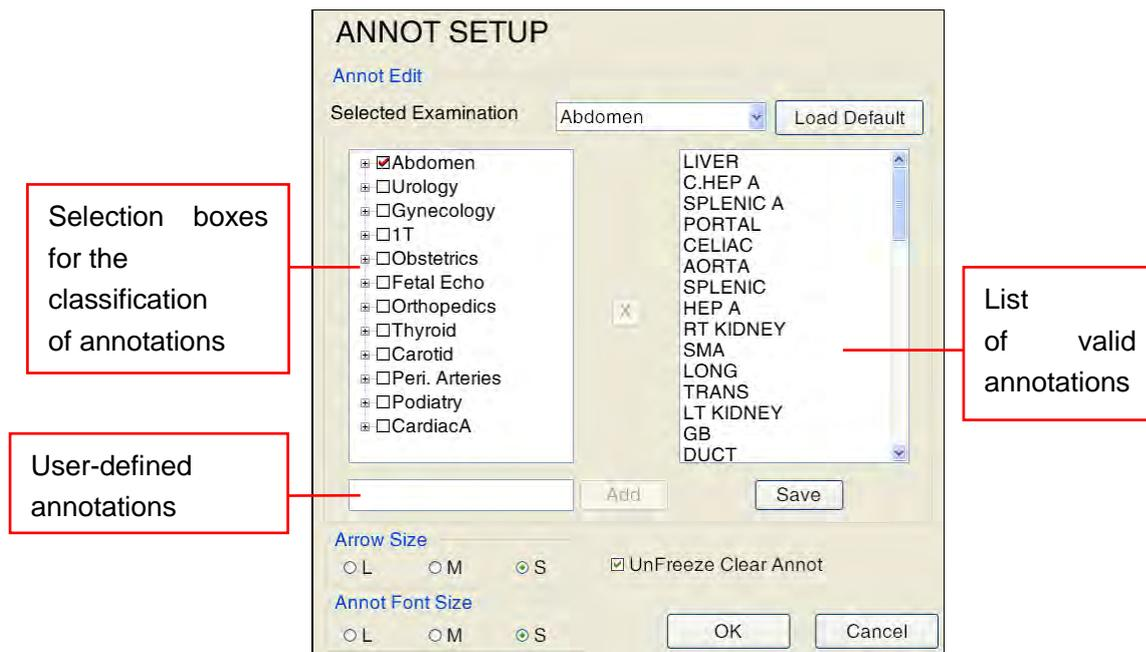

Fig. 5-30 Annotation setup screen
**ANNOT SETUP** enables users to define annotations. Tap **Setup** on the touchscreen to call up the **SETUP** screen. Then click on **Annotation Setup** to call up the **ANNOT SETUP** screen, as shown in Fig. 5-30.